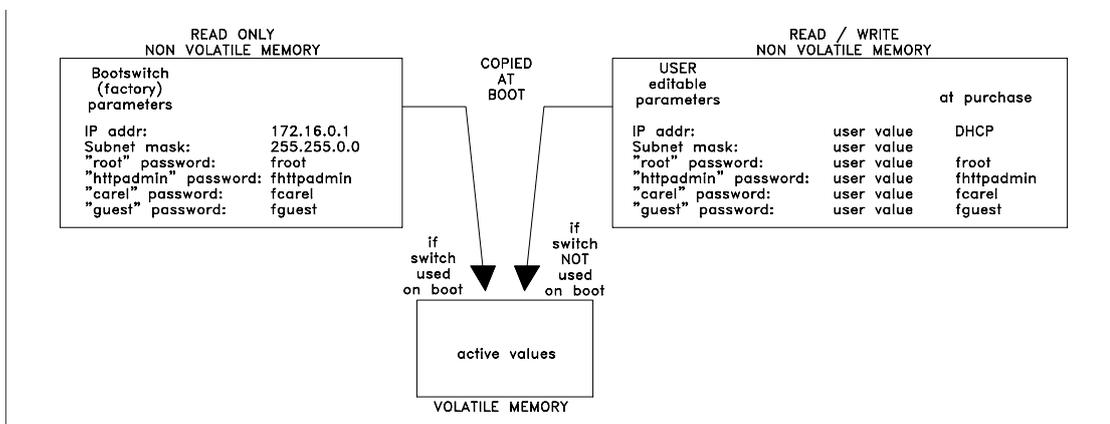

Figure 3.g - Operation of the “Bootswitch parameters” and of the user parameters.
- NOTE 1 These values remain active until *pCOWeb* IS RESTARTED (see Figure 3.g below). When next rebooted, if the button is NOT pressed, *pCOWeb* will return to the “User” configuration (see chapter 8 on page 35).